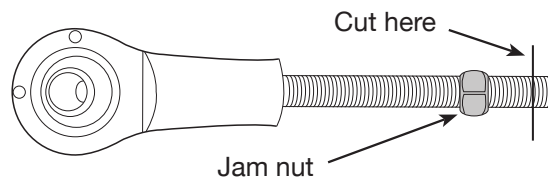

fig. 14
7. Before cutting the rod, thread the jam nut back on the rod. Use the nut to deburr the rod end. (fig. 14).